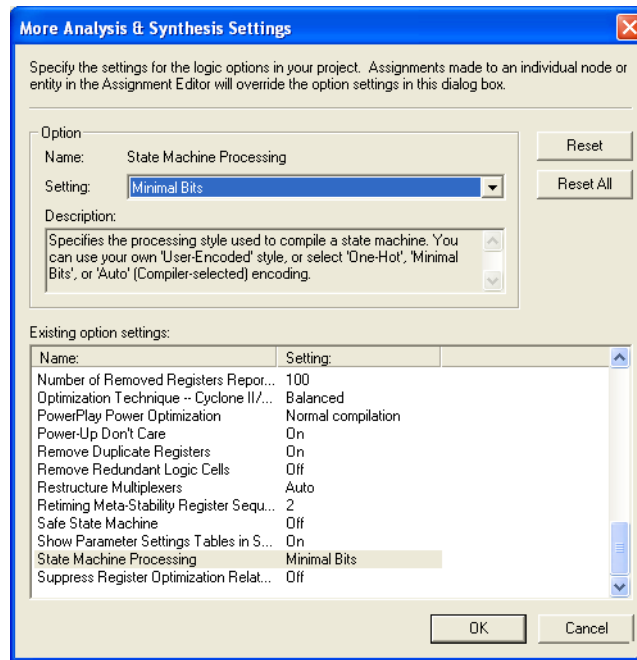

Figure 4. Specifying the state assignment method in Quartus II.
3. Before compiling your code it is possible to tell the Synthesis tool in Quartus II what style of state assignment it should use. Choose **Assignments > Settings** in Quartus II, click on the **Analysis and Synthesis** item on the left side of the window, and then click on the **More Settings** button. As indicated in Figure 4, change the parameter **State Machine Processing** to the setting **Minimal Bits**.